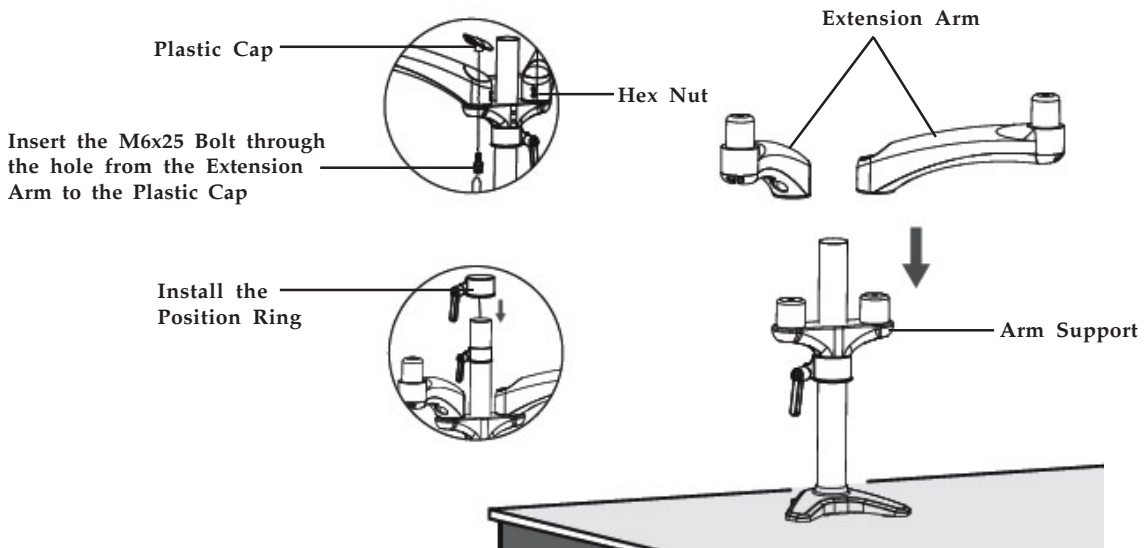

Figure 12
- 2-2. Install the **Extension Arm** to the **Arm Support**, use **M6x25 Bolt**, **Plastic Cap** and tighten finger tight using a Phillips screwdriver. Then tighten the 2 **Hex Nuts** finger tight using a **3mm Allen Key**, see Figure 12. Lastly, install the **Position Ring** onto the Tube Support and tighten the screw.